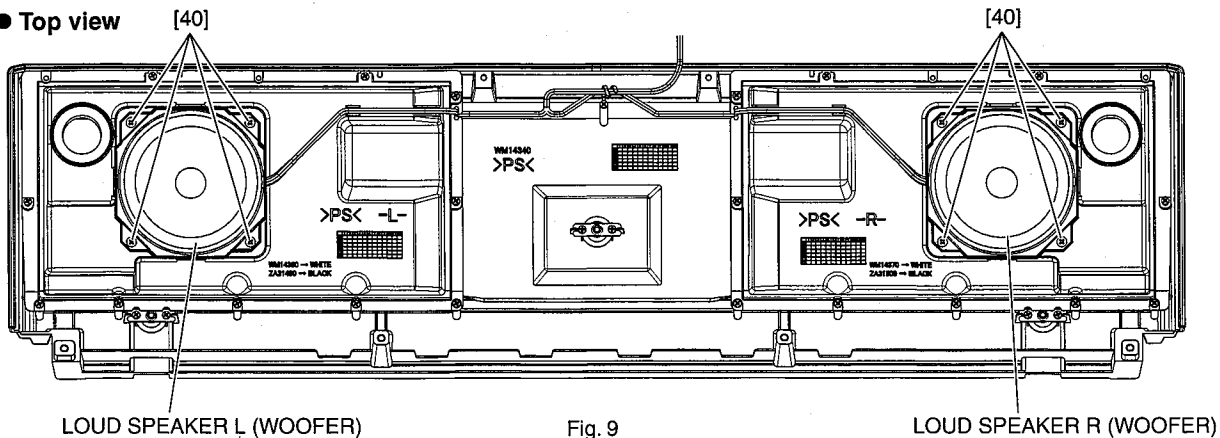

Fig. 9
13-2. Remove the four (4) each screws marked [40] to the right and left. The speakers (woofers) to the right and left can then be removed. (Fig. 9)